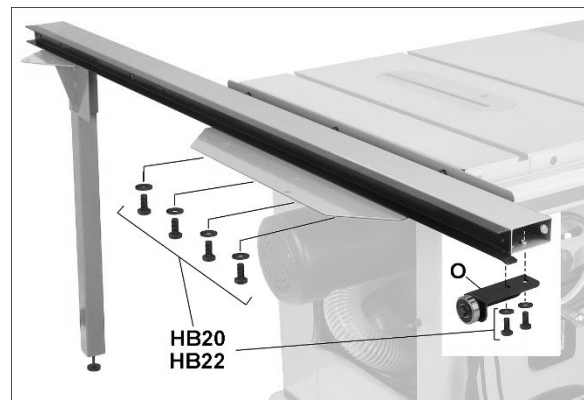

Figure 7-6
5. Install inner guide rail to adjustment plate with four screws and washers. See Figure 7-6. Position rail parallel to saw table, then tighten screws.
6. Install horizontal bearing bracket (O, Figure 7-6) to threaded holes at front of inner rail, with two screws and washers. Tighten screws.